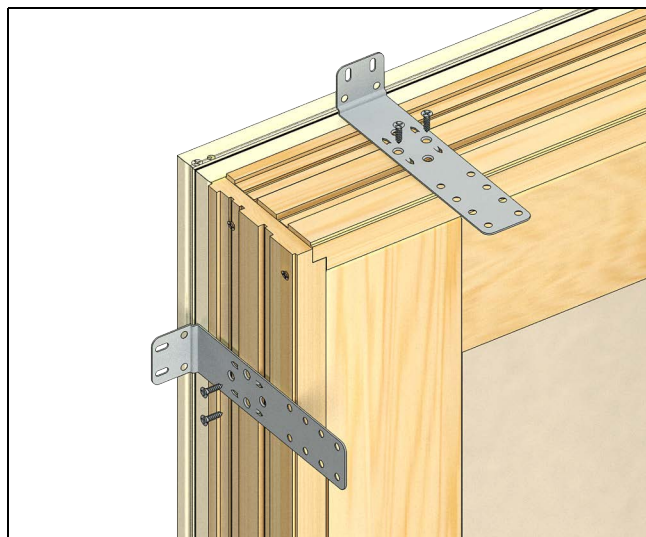

Figure 7
3. If you are installing your door with structural brackets or masonry clips, apply to the door frame once you are ready to place it in the opening permanently. Follow the instructions included with the brackets. See Figure 7.